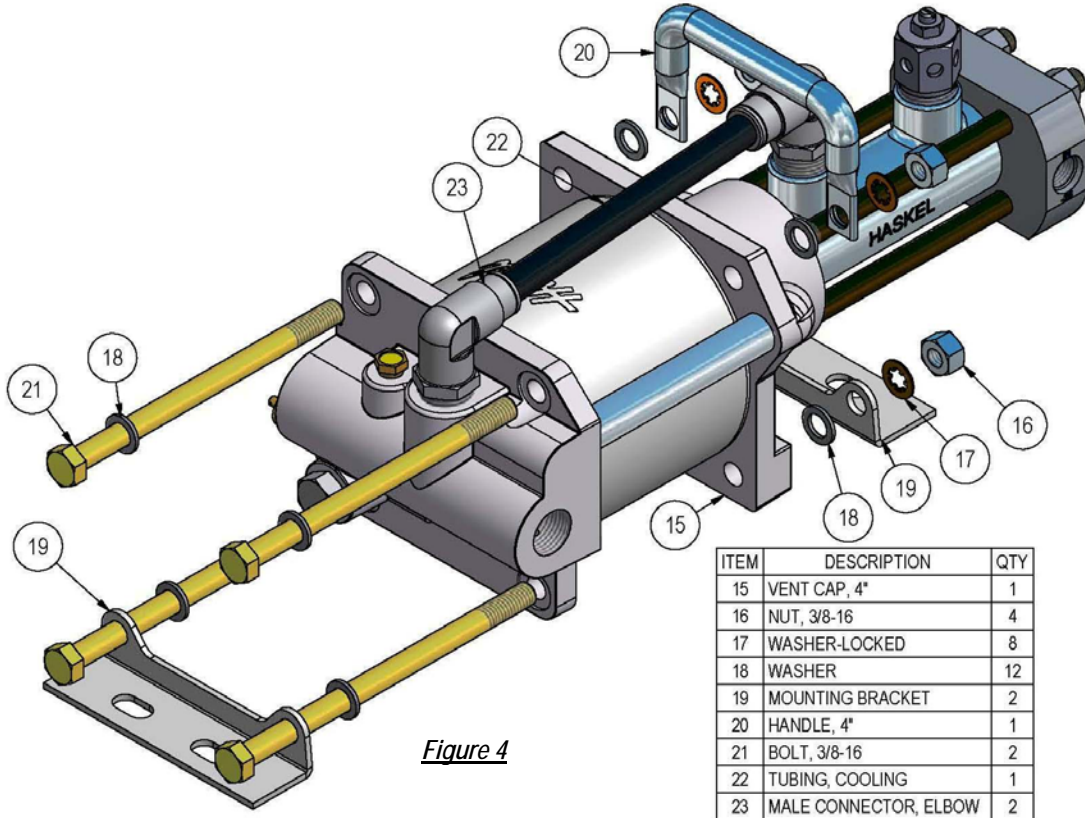
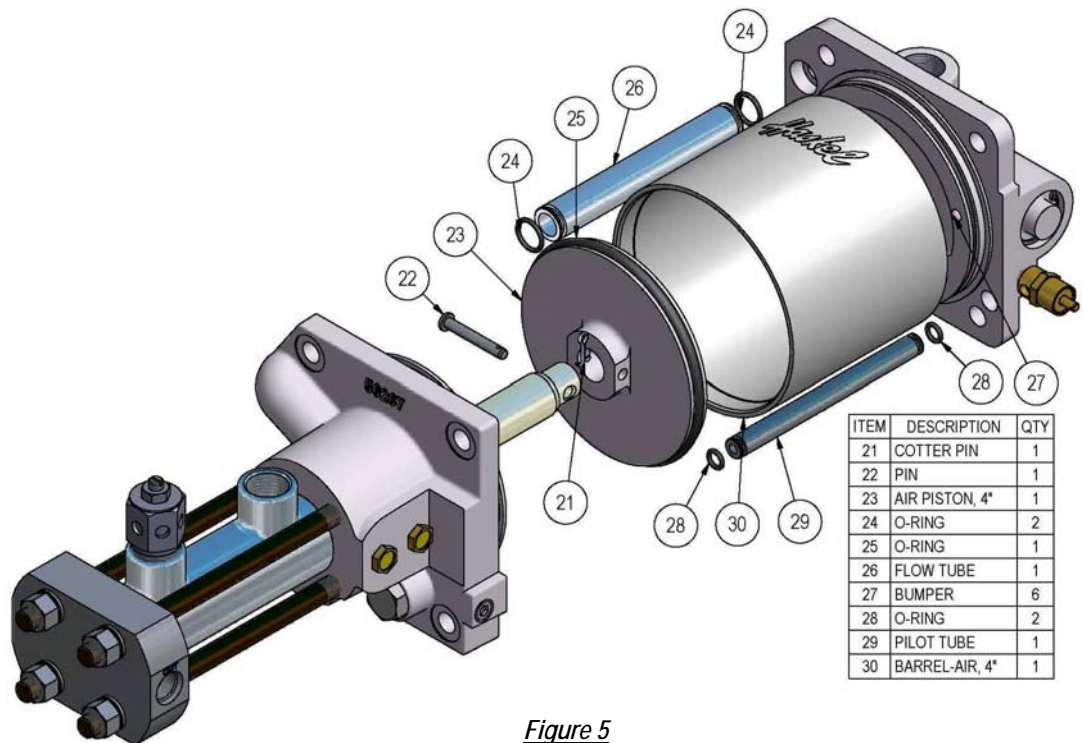

Figure 4
Figure 5
- Use Figure 4 for reference.
- Remove tubing (22) from the two elbows (23)
- Use a wrench to remove 4 nuts (16) as shown in Figure 4.
- Slide 4 bolts (21) and remove brackets (19) & handle (20).
- Disassemble Air Piston as shown in Figure 5. Check for any wear on Piston o-ring (28).
- Check bumpers (30) for damage and replace if necessary. There are six total with 3 on each end cap.